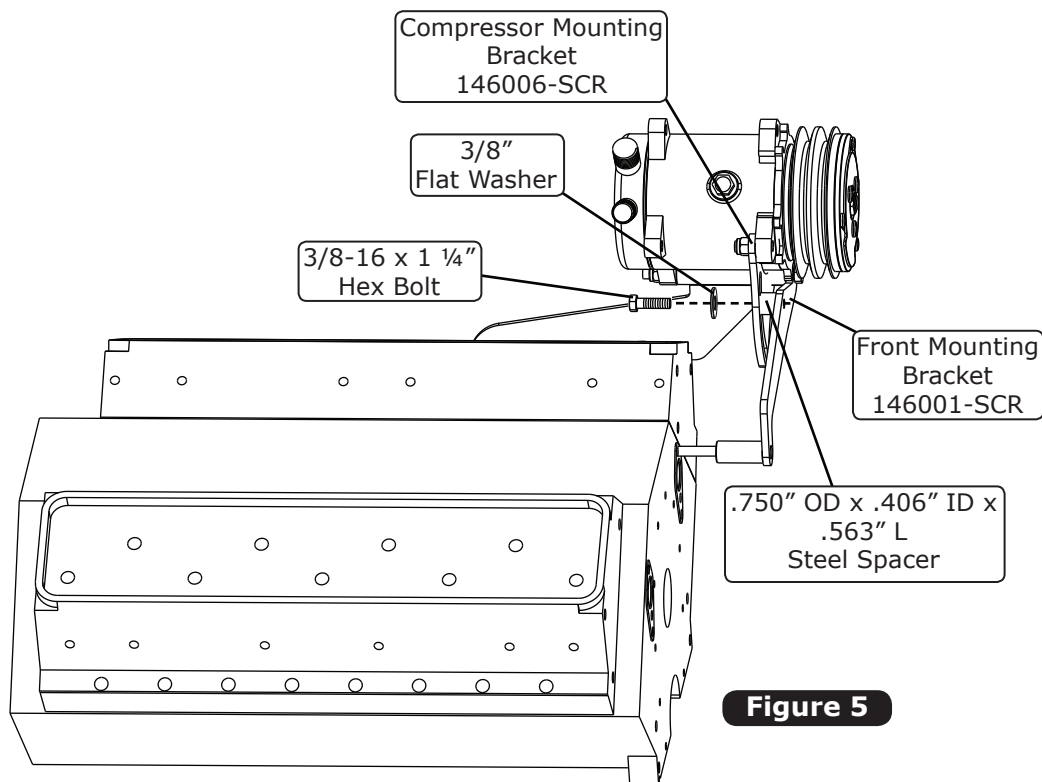

Figure 5
1. Install the .750" OD x .406" ID x .563" L steel spacer in front of the compressor mounting bracket and behind the front mounting bracket. Install the 3/8-16 x 1 1/4" hex bolt and 3/8" flat washer through the slot behind the compressor mounting bracket into the steel spacer, and then into the threaded hole on the front mounting bracket as shown in Figure 5, below.